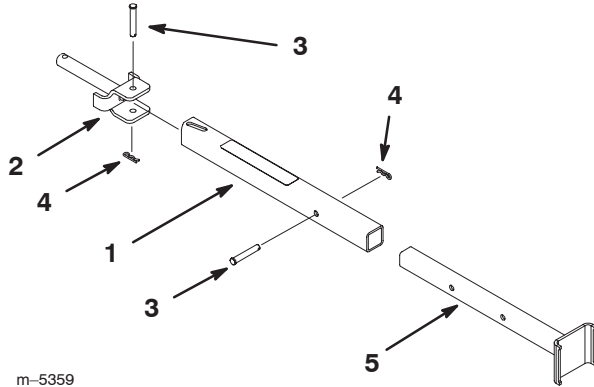

Figure 3
1. Place the foot part of stand into the Z Stand tube. Align holes and secure with a clevis pin (2-5/8 inch) and hair pin cotter (Fig. 3).
2. Install the Z Stand assembly to the pivot pin with a clevis pin (3 inch) and hair pin cotter (Fig. 3).
Note: When inserting the pivot pin, make sure the position of slot in tube is as shown in Figure 3.